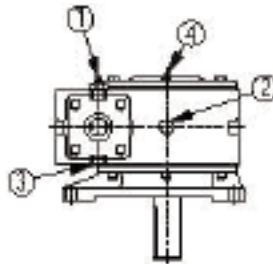

Figure W11: Output Vertical Down
- 1 Remove Fill and Breather Plug 1, figure W11, and Oil Level Plug 2, figure W11.**
- 2 Fill gearbox with recommended lubricant to a level near the centerline of the uppermost horizontal shaft or until lubricant starts coming out Oil Level Plug 2, figure W11.**
Since the gearbox is positioned with the output vertically down, an adequate amount of lubrication must be supplied to the Bearing through grease fitting 4, figure W11, as indicated above.